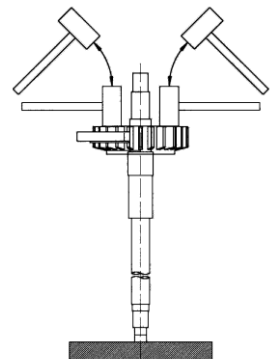

Fig.16
- (10) Remove fan key (7).
- (11) Remove bearing bracket (24) and packing box (19) from fan case (A) (1).
- (12) Remove cooling fan (21).
- (13) Remove bearing bracket (24), bearing retaining cap (26) and foot (40) from bearing box (outlet side) (25). At this time, shaft (6) should come off together with bearing box (outlet side) (25).
- (14) Lay a wood-block on the floor, and stand shaft (6) on top of-it in an upright position. (Fig.16)
- (15) Remove bearing box (outlet side) (25) from bearing (28) by tapping outside uniformly with plastic hammer.
- (16) Remove bearing nut (30) and bearing washer (29).
- (17) Remove bearing (28) from the shaft (6) using a puller.